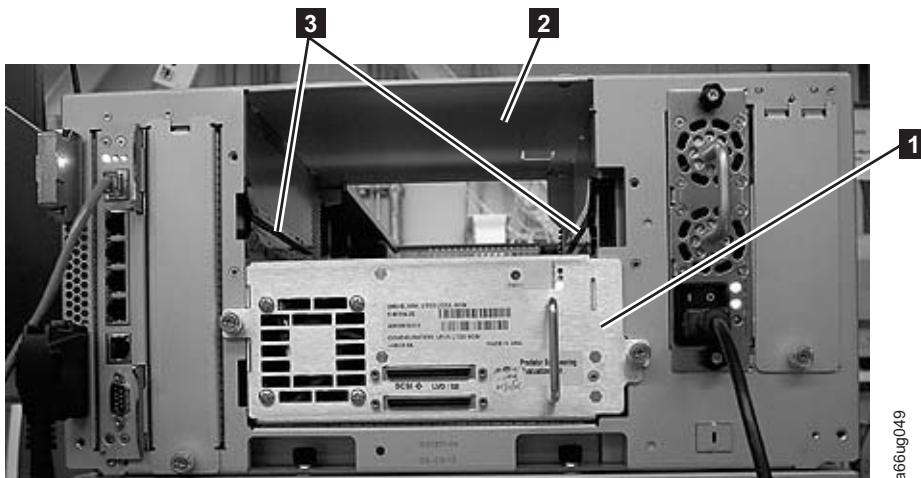

Figure 3-12. Guide rails and guide slots inside a drive slot
1. Align the drive sled with the guide rails and guide slots along the tracks (**3** in Figure 3-12).